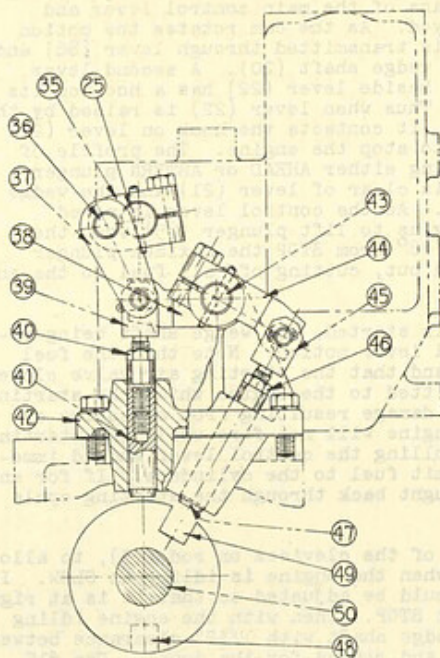

FIG. R-4
The latch shaft interlock is shown in Fig. R-4. The two plungers (41) and (47) are located fore and aft so that they are in line with adjacent latch shaft webs, and they engage slots (48) and (49) cut in the respective webs. These plungers are interconnected by rockers (38) and (44) and shaft (43), the whole assembly being mounted in bracket (42) on top of the latch box, just aft of the control unit. The device is operated from the main control shaft in the control unit by means of shaft (25), to the far end of which a helical gear ((24) in Fig. R-1) is keyed and clamped, which gear in turn meshes with a similar gear ((19) in Fig. R-1) on the control shaft. Shaft (25) carries crank (35) on its overhung end, and pin (36) in the crank is connected through link (37) and fork (39) to plunger (41).
For plunger positions shown in Fig. R-4, the control handle is at STOP, the latch shaft is in AHEAD position, slot (49) registers with plunger (47), slot (48) is
Set latch shaft at some intermediate position, and move control lever in AHEAD direction until latch pin (5) (Fig. R-1) drops into the slot in latch plate (6). Position lever so that pin is about $1/8"$ from upper end of slot, and then adjust plunger (47) (Fig. R-4) relative to fork so that end of plunger bears against latch shaft web. This will allow some clearance between plunger and web when latch pin bears against upper end of slot. Repeat adjustment on plunger (41) for reverse, and tighten jam nuts to lock plunger adjustments. Interlock bracket (42) (Fig. R-4) is doweled to the latch box, and if replaced the new assembly must be located so that the plungers will enter the slots in the latch shaft webs before drilling the new dowel holes.
180° out of register with plunger (41), and both plungers are up clear of the latch shaft webs so that the latter is unlocked and free to turn. Assume now that the control lever is moved in the AHEAD direction. The hand of the helical gears is such that shaft (25) will be rotated clockwise as viewed in Fig. R-4, which will lift plunger (41) through the action of crank (35) and link (37). Plunger (47) will be lowered at the same time, through the interconnection of the rockers (38) and (44) and shaft (43), and will enter slot (49) in the latch shaft web, thereby locking the shaft in the AHEAD position and preventing its shifting to any other position.